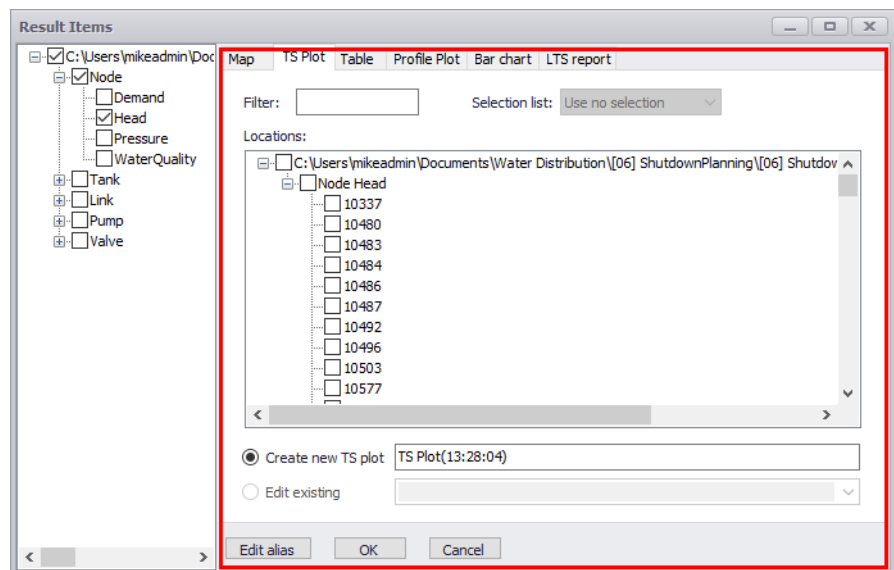

Figure 20.25 The TS Plot tab on the Result Items dialog
- Access the TS Plot tab on the Result Items dialog (Figure 20.25)
- **Time series plot.** This tool launches the Result Items dialog wherein a time series plot may be configured via the TS Plot tab (Figure 20.25).